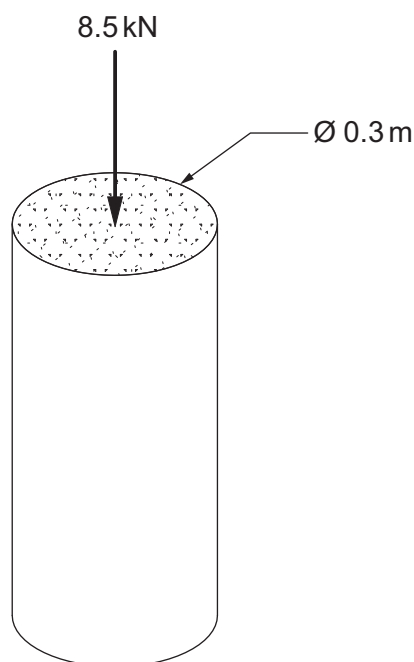

Fig. 10.1
- (iv) Fig. 10.1 shows a design for a concrete pillar that could be used to resist load in a structure.